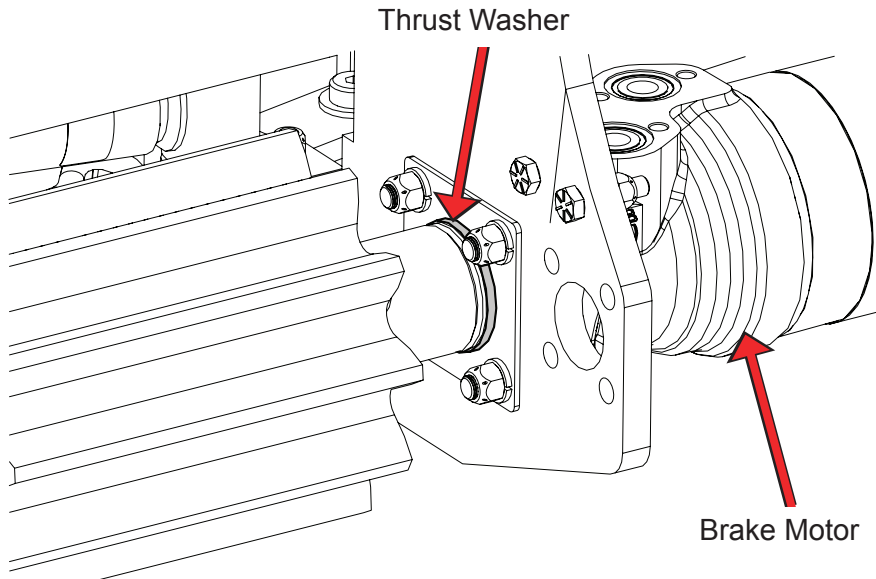

Figure 16
8. **Brake Motor:** Install the **brake motor** on the right side of the grabber assembly. Do not push the motor flush against the grabber assembly until the thrust washer is installed (see Step 9) (Figure 16). It may be necessary to turn the drive motor enough to correctly position the spline to allow the brake motor to be installed.
9. Install a thrust washer in place around the brake motor spline (Figure 16).
10. Apply one (1) drop of Loctite 263 to each stud. Do not apply more than one drop.
11. Install a washer (PN 0621024) and a locknut (PN 1141067) per stud on the fine threaded end on the brake motor (Figure 16).